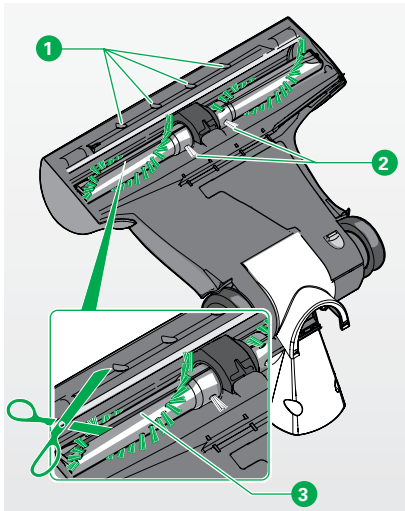

Fig. 4.9 Checking and cleaning the roller brushes
The green tufts of bristles must be longer than the yellow tufts (2, Fig. 4.9 on page 70). Otherwise the Kobold EB370 Electronic brush will not have the desired brushing effect.
- Check from time to time if the green tufts of bristles are still longer than the yellow tufts (2, Fig. 4.9).